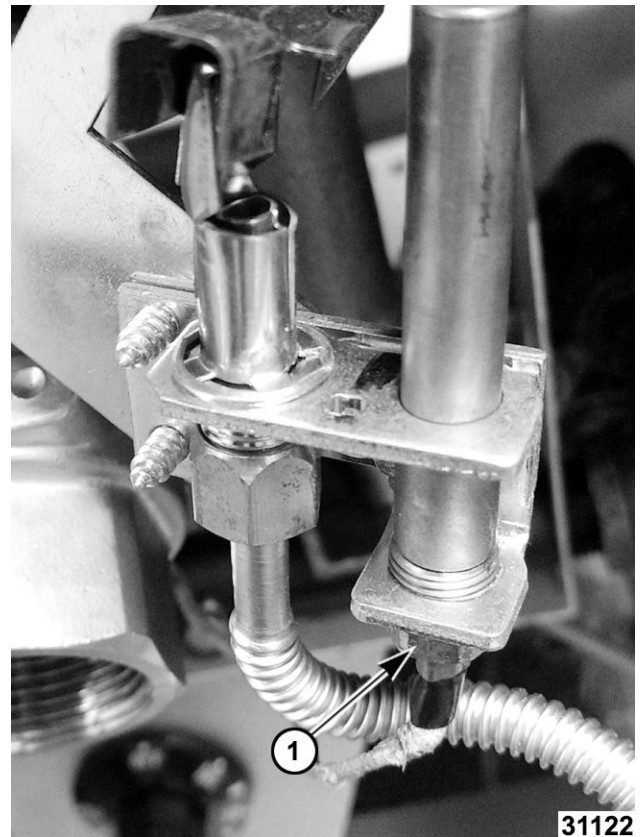

Fig. 17
3. Loosen thermopile holding nut (1, Fig. 17).